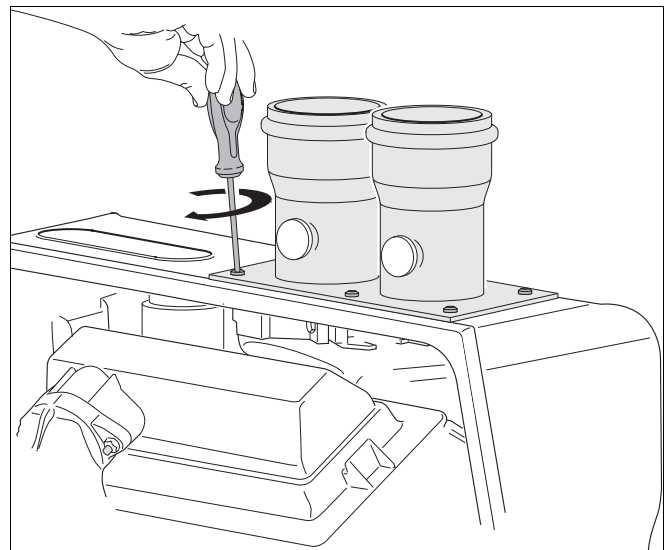

Fig. 14 Connecting the flue gas adapter
- Screw on the flue gas adapter using six screws (see fig. 14).